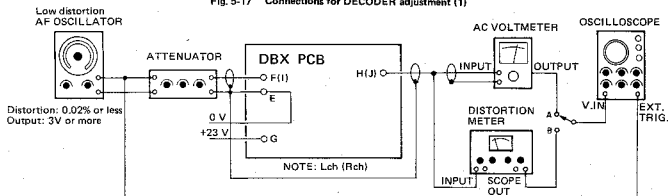

Fig. 5-18 Connections for DECODER adjustment (2)
4. Change the connections to Fig. 5-18, then feed a 1 kHz/ $-8$  dB (308 mV) input signal to the INPUT terminal. Adjust R73/R83 so that AC voltmeter reads  $-8$  dB (308 mV).